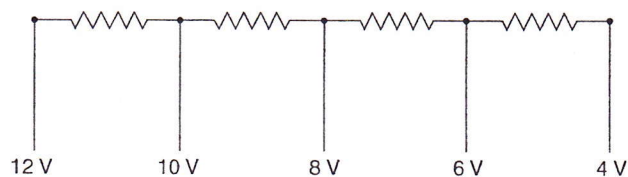

FIGURE 14-27 Stepped resistor.
**Tapped or stepped resistors** are designed to have two or more fixed values, available by connecting wires to the several taps of the resistor. Heater motor resistor packs, which provide for different fan speeds, are an example of this type of resistor (Figure 14-27).